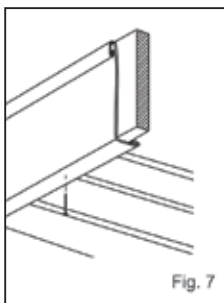

Fig. 7
- Install the fascia behind the roofing drip edge to hold the top edge of the fascia (Figure 6). If no drip edge exists, field formed finish trim should be installed at the top of the fascia board (Figure 7).
- Cut the first panel to size based upon the calculation above and fit into place. Be sure to retain the panel profile. Use a piece of finish trim\* and a snap lock tool to hold the cut edge securely in place (Figures 7 and 8).